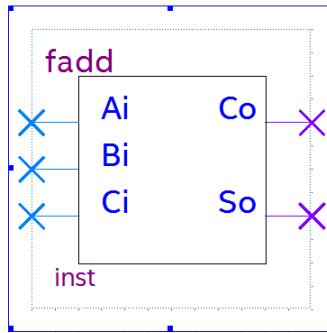

Figure 18: New fadd full adder symbol
- The placement of each signal name is relative to it's corresponding pin. Once a signal name is positioned the way you like it relative to its pin, to move the pin click and drag its X symbol. The resulting symbol is shown in Figure 18